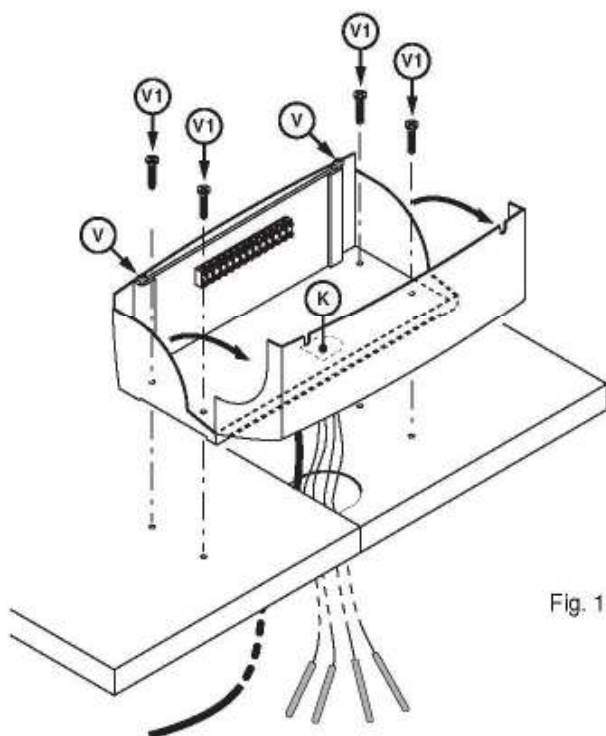

Fig. 11-2
- Wrap the glass wool around the boiler body leaving the bulb well (P) on the top side exposed.
- Loosen screw (V) and rotate towards you the frontal part of the electric control panel (see fig.11-2) and remove the half cut plastic plate K